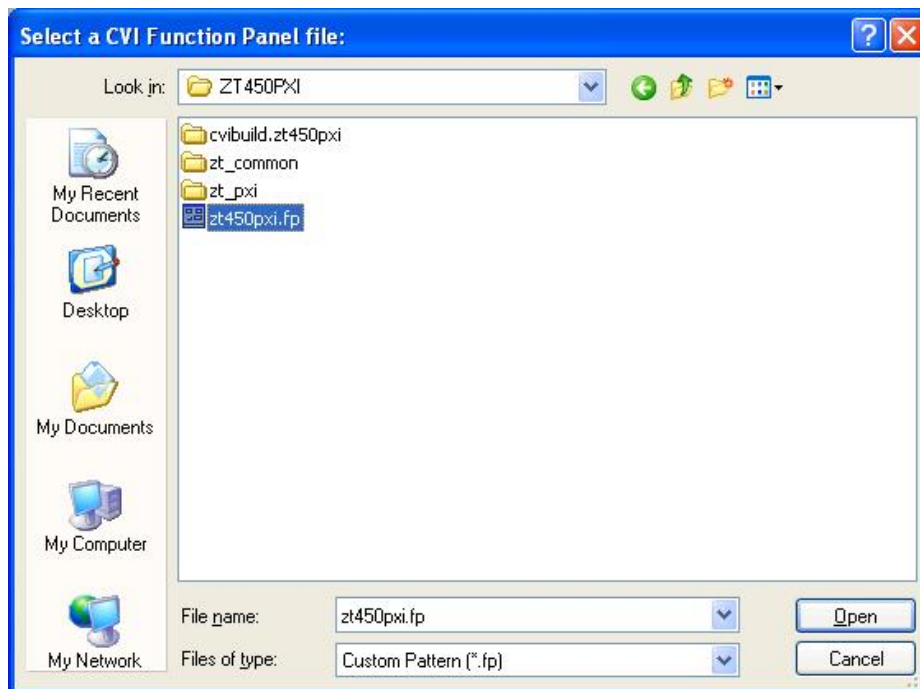

Figure 14: Selecting the Function Panel file
- From the dialog window, select the .fp file for the CVI driver to be imported. This file will be named similar to the instrument with which it is associated (ex. zt450pxi.fp). See Figure 14 below: